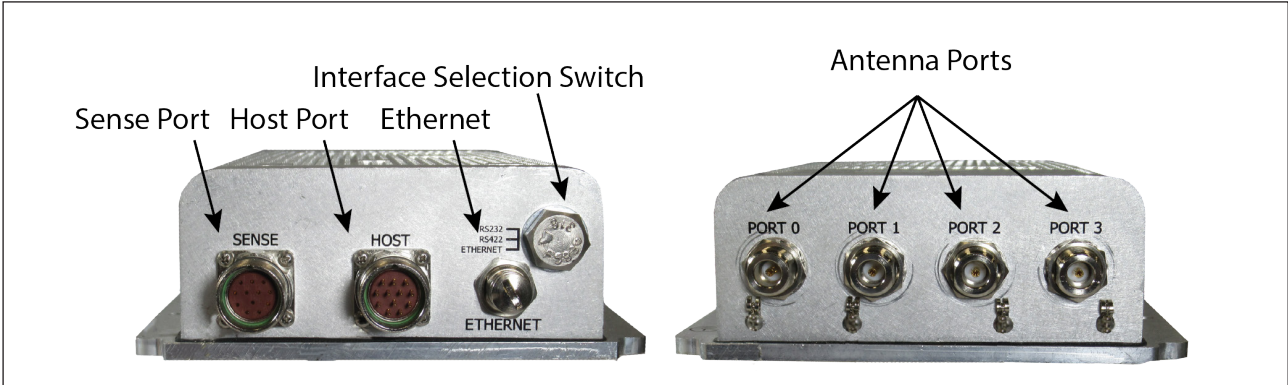

Figure 1 MPRX End Views
| Figure 1 MPRX End Views . . . . .                                           | 1–18  |
The MPRX consists of an input/output (I/O) module, a power supply, a reader logic board (also called a tag decoder), and a radio frequency (RF) transmitter/ receiver (called the RF module) in a compact enclosure. These components are contained in a highly reliable, compact, and easy-to-install package. Figure 1 shows the four port version of the MPRX. The host connector, sense connector, Ethernet connector, and interface selection switch are on the opposite end of the MPRX from the four antenna port locations.